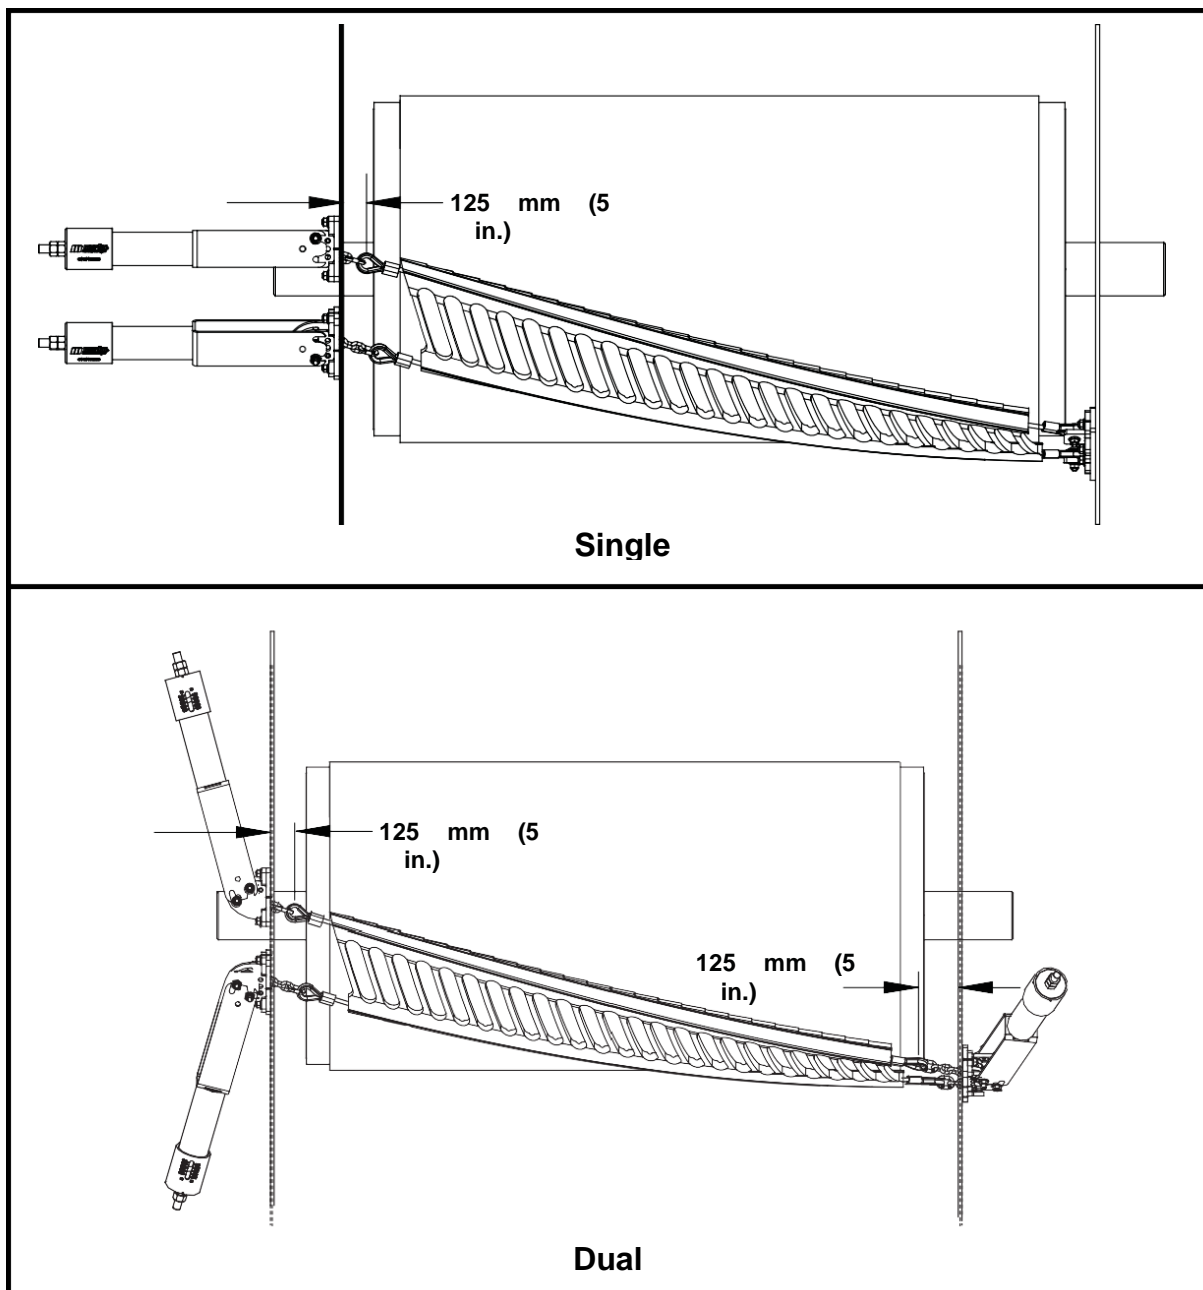

Figure 4: Installations with Wide Chute Walls
- The distance between the cleaner and the chute wall should be minimized. Martin Engineering recommends keeping the distance to 125mm (5 in.) maximum per side (see Figure 4). Excess chain or cable could result in vibration that could damage the belt or the cleaner. If necessary, build a sub-wall to support the tensioners in the proper position. Consult Martin Engineering for installation assistance if parameters fall outside of this range.